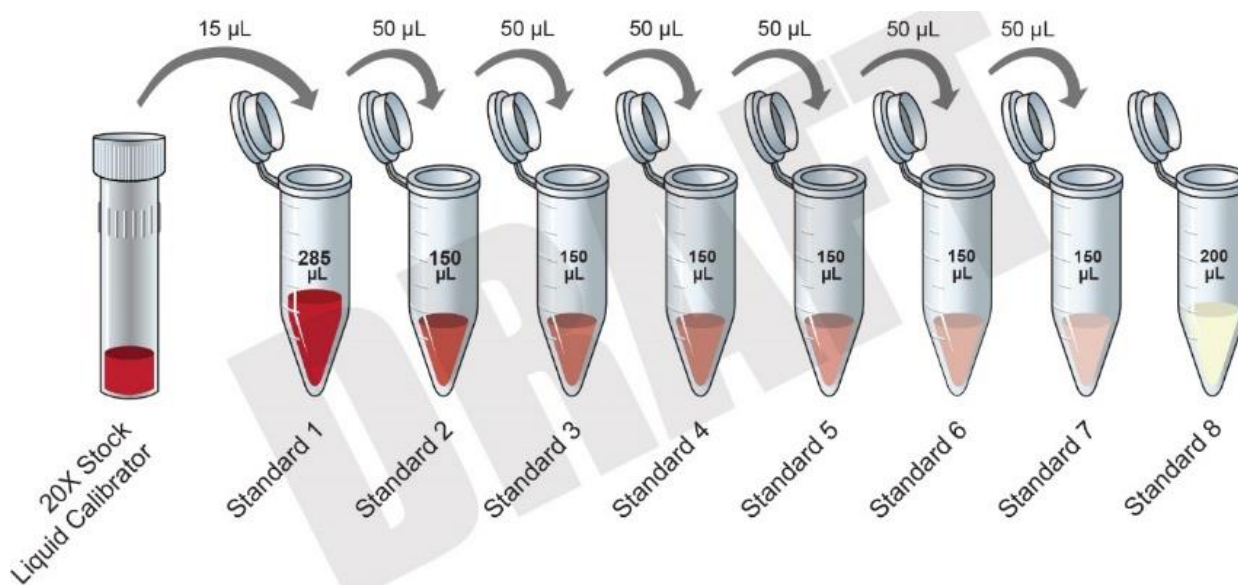

Figure 3. Dilution Schema for Preparation of Calibrator Standards.
**Note:** Discard any unused, diluted calibrator solutions. For the lot-specific concentration of the calibrator, refer to the COA supplied with the kit. You can also find a copy of the COA at [www.mesoscale.com](http://www.mesoscale.com). To prepare seven standard solutions plus a zero calibrator for up to 4 replicates, see Figure 3.